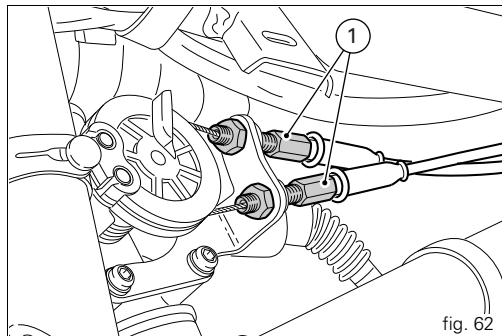

fig. 62
If not so, free play can be adjusted by means of the throttle body adjusters (1) (fig. 62).